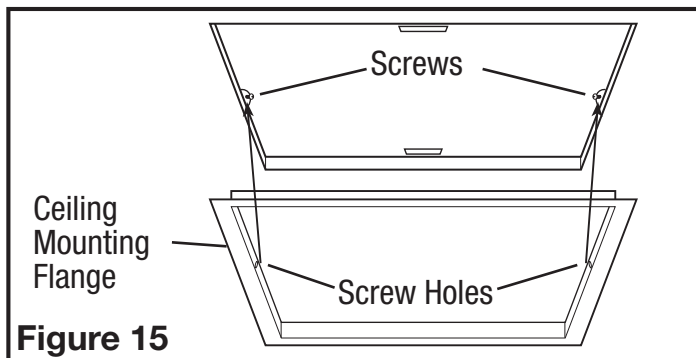

Figure 15
NOTE: If the mounting flange is installed on the fan housing, remove the two screws that connect the ceiling mounting flange to the housing and set aside (Figure 15).
4. Install the ceiling mounting flange to cover any gaps which exist between the housing and the finished ceiling. Remove the two screws that connect the ceiling mounting flange to the housing. Put sealant (not provided) on inside edge of the ceiling mounting flange to ensure that the flange is sealed to the ceiling. Line up the screw holes in the ceiling mounting flange with the screw holes on the inside of the housing and press flange in place so it is tight against the ceiling. Reinstall ceiling flange mounting screws inside the housing (**Figure 15**).